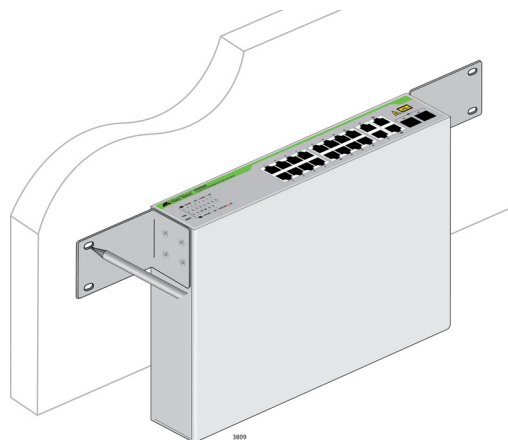

Figure 9. Marking the Screw Hole Locations
4. Have another person hold the switch at the wall location where the switch is to be installed, while you use a pencil or pen to mark the wall with the locations of the four holes in the brackets. The switch should be oriented such that its front faceplate is facing up and is level to the floor. See Figure 9 on page 36.